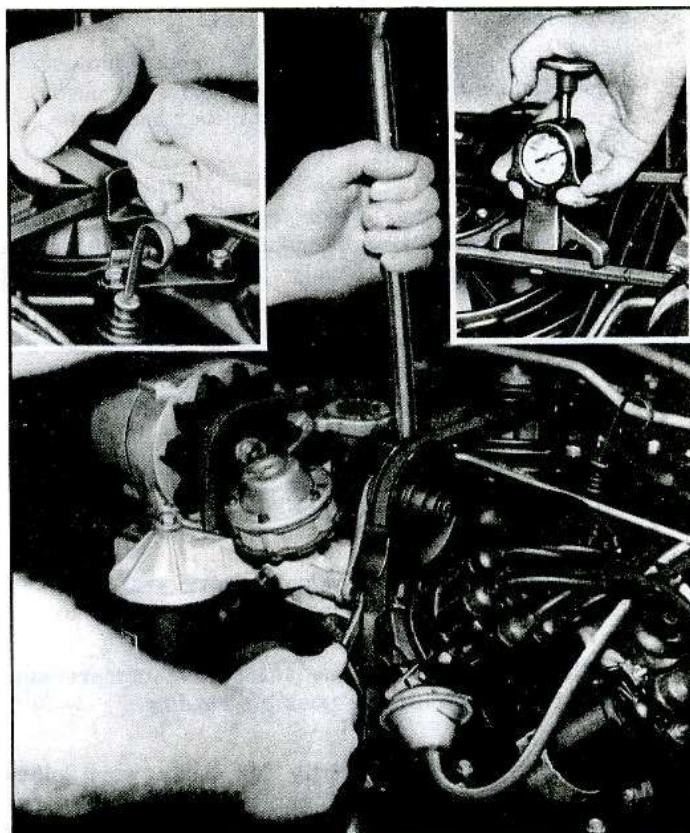

Fig. 4—Blower Belt and Guide Adjustment
- Place a 1/16" shim between belt and rear guide (fig. 4), then using a bar and a strand tension gauge adjust blower belt. Fifty-five lbs.  $\pm$  5 lbs. (used belt), 75 lbs.  $\pm$  5 lbs. (new belt) and tighten securely.
- Remove shim from between blower belt and rear guide and using shim as a gauge adjust upper guide (fig. 4) and tighten securely.